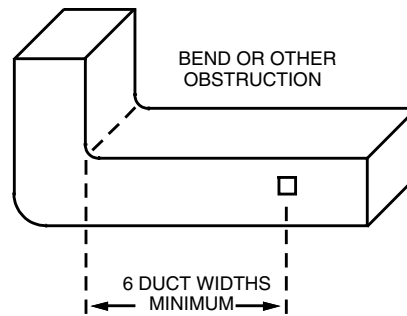

Figure 9. Duct Housing Placement - Location of Bends or Inlets
1. It is recommended to locate detectors/sensors a minimum of six duct widths downstream from bends or inlets. Such locations ensure that air flow is nonturbulent and that smoke is properly mixed with air in the duct for maximum detector/sensor efficiency. See Figures 9 and 10.
Note: Installation of a duct detector/sensor to a round duct is the same as shown in Figures 9 and 10 as long as the round duct is 18 inches or larger (45.7 cm) in diameter.